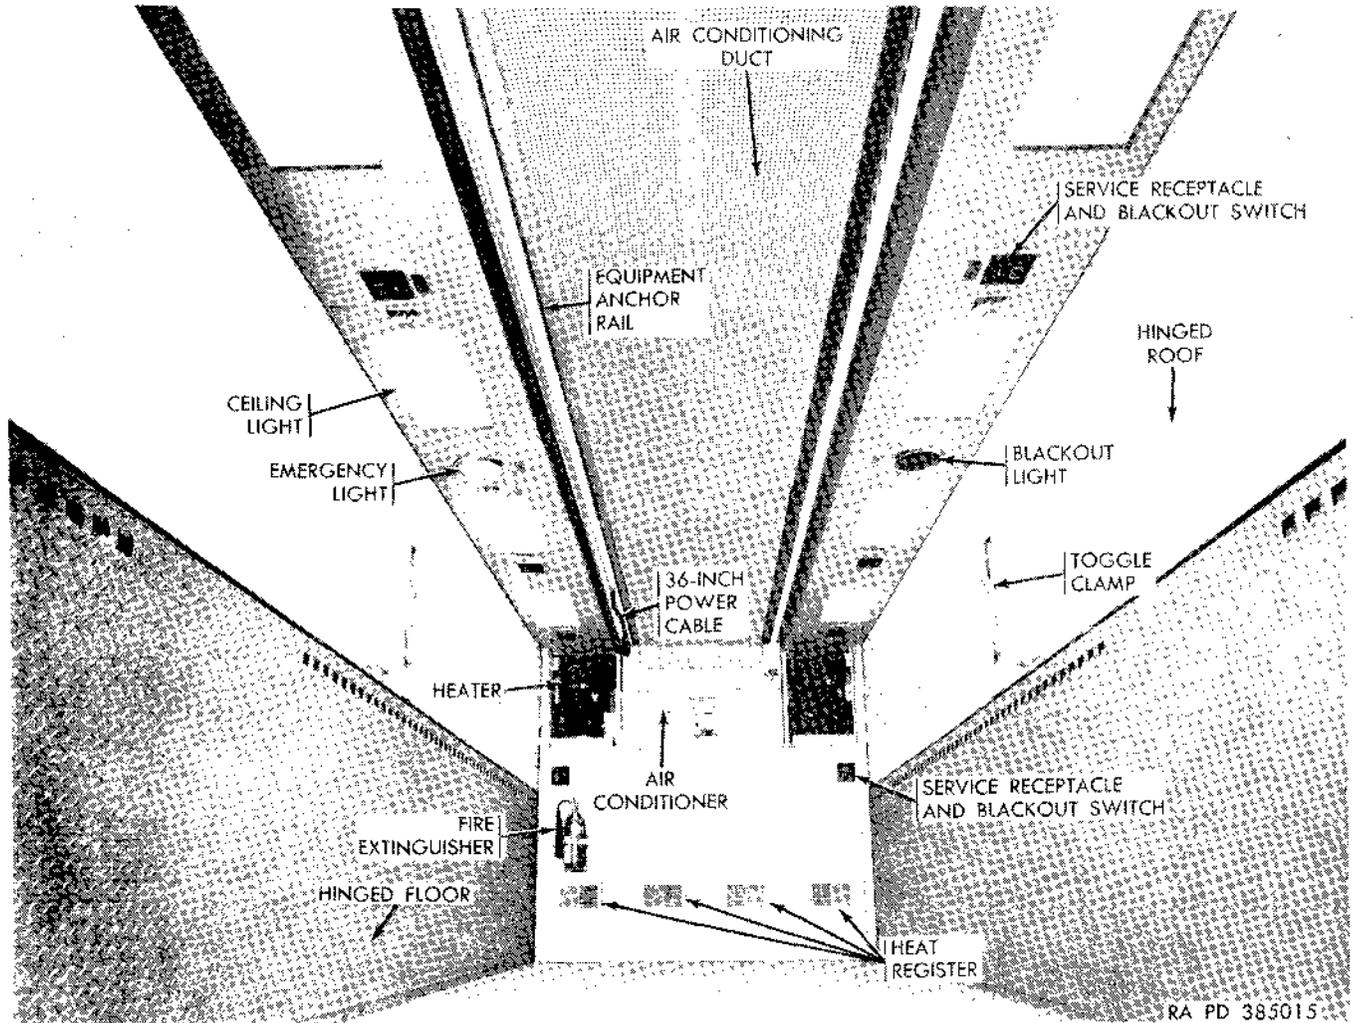
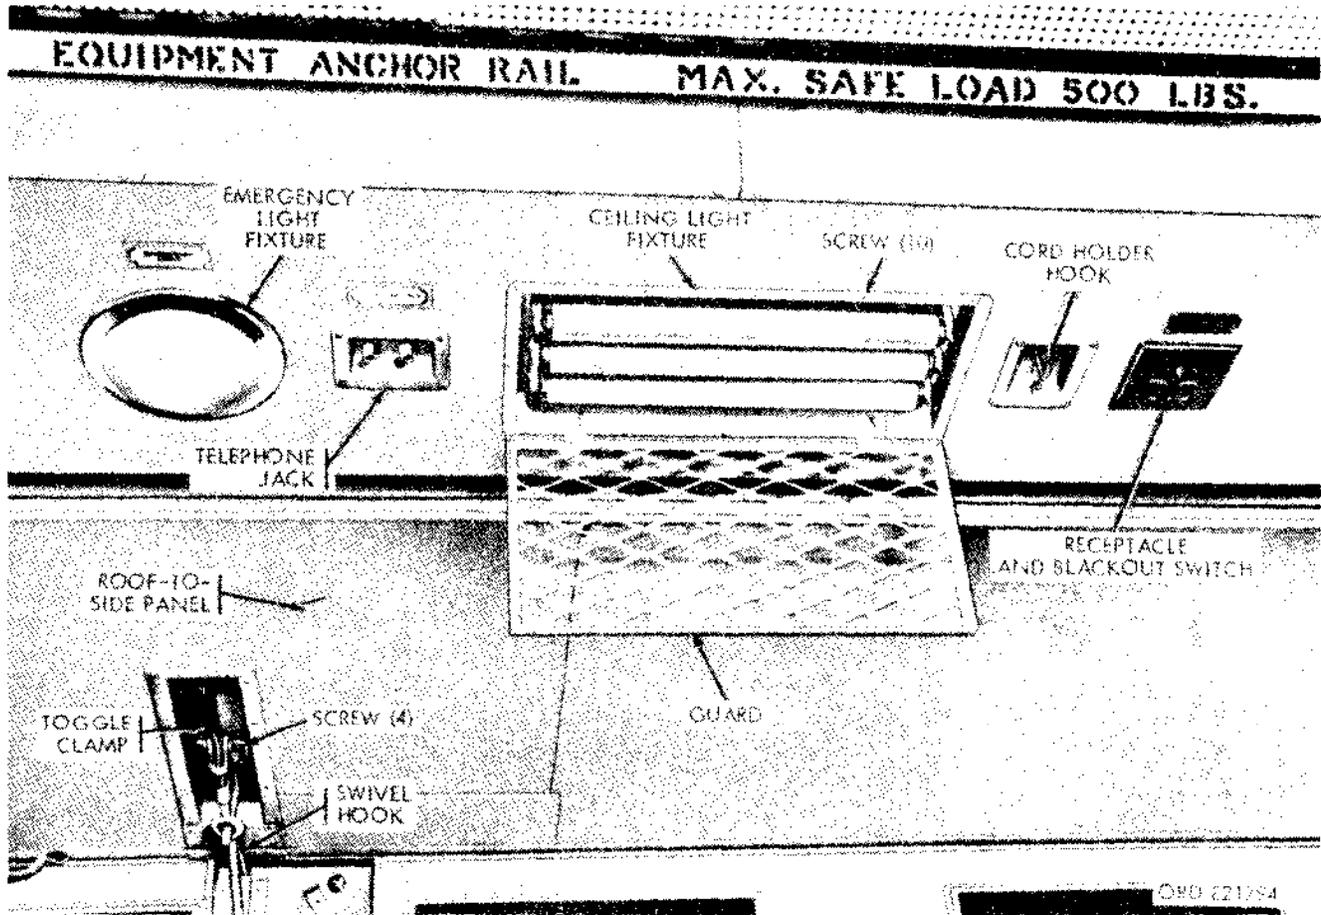

Figure 2-231. Van in body in retracted position—front interior view.
Figure 2-234. Ceiling fixtures and lights.
(4) *36-inch auxiliary power cable.* The 36-inch auxiliary power cable (fig. 2-231) is similar in construction to that of the 100-foot power cable except that only one end is fitted with a receptacle to accommodate the van power entrance receptacle. The opposite end is separated into four individual wires which are used to make connections to an outside power source whose output connector
(11) *Receptacle and blackout switches.* Ten combined receptacles and blackout switches located in the van ceiling and front wall (fig. 2-231 and 2-234) provide power outlets for operation of the 110-volt equipment housed in the van. The integral blackout switches are used to bypass the blackout feature when equipment must remain in continuous operation, or does not involve a blackout hazard. Cord holder hooks (fig. 2-234) are placed adjacent to the ceiling receptacles to prevent accidental disconnection of the power cords.
(12) *Emergency light.* The emergency light (fig. 2-231 and 2-234) is located approximately in the center of the van ceiling at the left of the air conditioning duct. It consists of a fixture containing a standard 60-watt lamp covered by a white frosted lens. The light is controlled by a separate emergency light switch and operates independently of the main blackout circuit switch and door-operated switches.
(13) *Blackout light.* The blackout light (fig. 2-231) is located approximately in the center of the van ceiling at the right of the air conditioning duct. It is similar to the emergency light, except that it is equipped with a 25-watt blue lamp and blue lens. The light operates in conjunction with the blackout relay and blackout door-operated switches, and is automatically turned on when the doors are opened, and off when they are closed, when the main blackout switch is in the ON position.
(14) *Ceiling fixtures and lights.* Eight rectangular ceiling light fixtures (figs. 2-231 and 2-234) are located in the van ceiling on either side of the air conditioning duct. Each contains three 20-watt fluorescent tubes, two 60-watt lamps, and
d. Heating System. The van heating system incorporates two fuel-burning, 60,000 B.t.u noncontaminating, hot air heaters operating on 110-volt ac, 60-cycle, single-phase power. The heaters are located in the van bonnet on either side of the air conditioner (fig. 2-231). Control facilities permit circulation of both heated and unheated fresh air drawn from outside the van, mixed with heated and unheated air drawn from inside the van. The proportion of outside and inside air may be varied. Hot air ducts in the van front wall conduct heated air from the heaters into the van interior through four heat registers (fig. 2-231) in the van front panel when the registers are open. When the registers are closed, the heated air is conducted through corrugated ducts beneath the aluminum floor tread plate, which functions as a radiator. This function extends to the hinged floor sections so that the heat-radiating surface of the floor is available when the van is in both its expanded and its retracted positions.
and uncooled air drawn from outside the van, and cooled and uncooled air drawn from inside the van. The proportion of outside and inside air may be varied. A perforated air conditioning duct (fig. 2-231), located on the van ceiling, conducts cooled or uncooled air to the van interior.
(1) Place the van side panel in its fully expanded position (TM 9-2320-211-10).
(2) Secure the end panel doors in their open position.
(3) Support the hinged roof with swivel hooks (fig. 2-234). Place a 1-inch wood block between the end swivel hook and the hinged roof to release the tension on the counterbalance cable.
(4) Remove the cotter pin, clevis pin, and clevis which attaches the cable to the vertical drop arm, and remove the clevis from the arm.
(5) Remove the cotter pins and roller pins which attach the upper and lower rollers to the corner post, and remove the upper and lower rollers. Removal of the lower roller will release the lower folding arm.
(6) Unscrew the lower cable end from the turn buckle, then unscrew the turnbuckle from the turn buckle eye.
(7) Withdraw the cable upward through the guides, and remove the cable.